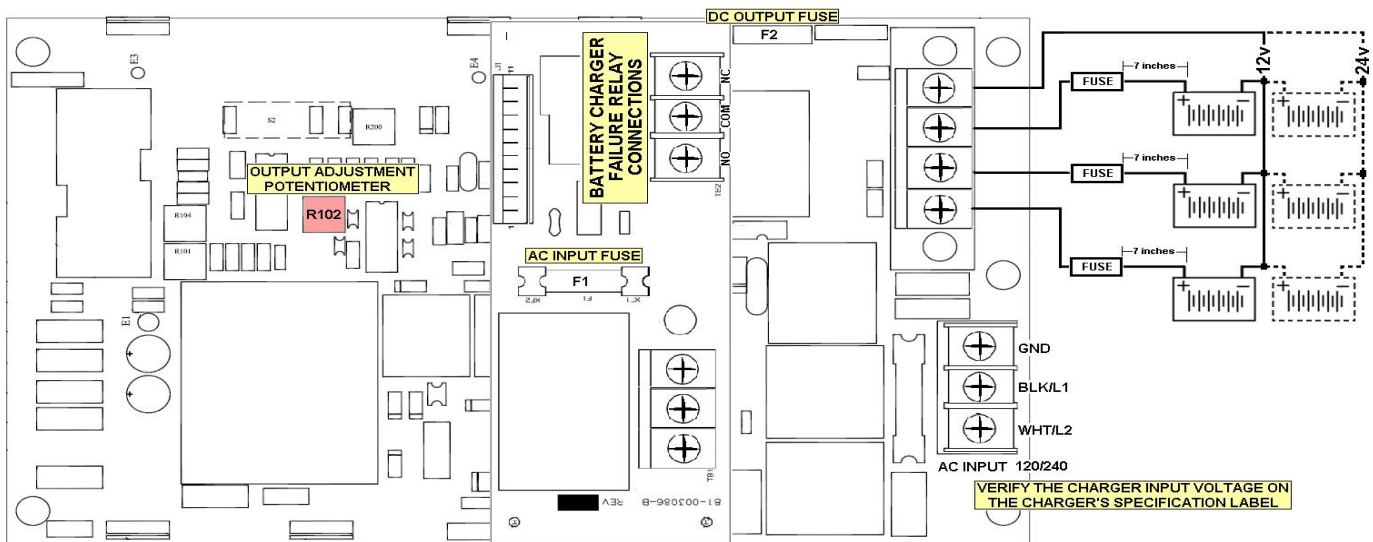

Figure 1. Wiring Diagram (Reference Table 1 for Applicable HQ Series ABS Charger Model)
The HQ Series ABS Charger models may be used for charging many battery types. All HQ Series ABS Chargers have been factory preset to a "Bulk" peak voltage of 14.5vdc/29.0vdc and a "Float" peak voltage of 13.6vdc/27.2vdc (typical for Lead Acid/Flooded batteries). To adjust for a different DC output voltage or battery cell type, refer to Figures 1 through 4 to locate the "OUTPUT ADJUSTMENT POTENTIOMETER".
To Adjust for a different DC output voltage or battery cell type, refer to Figures 1 through 4 to locate the "OUTPUT ADJUSTMENT POTENTIOMETER".
2.	The AC fuse (F1) is located just above the AC terminal block (TB1) and the DC fuses (F2 and F3) are located above the DC output connections (see Figure 1, Figure 2 or Figure 3). When replacing fuses, use only fuses of exactly the same type and rating (see Table 1).